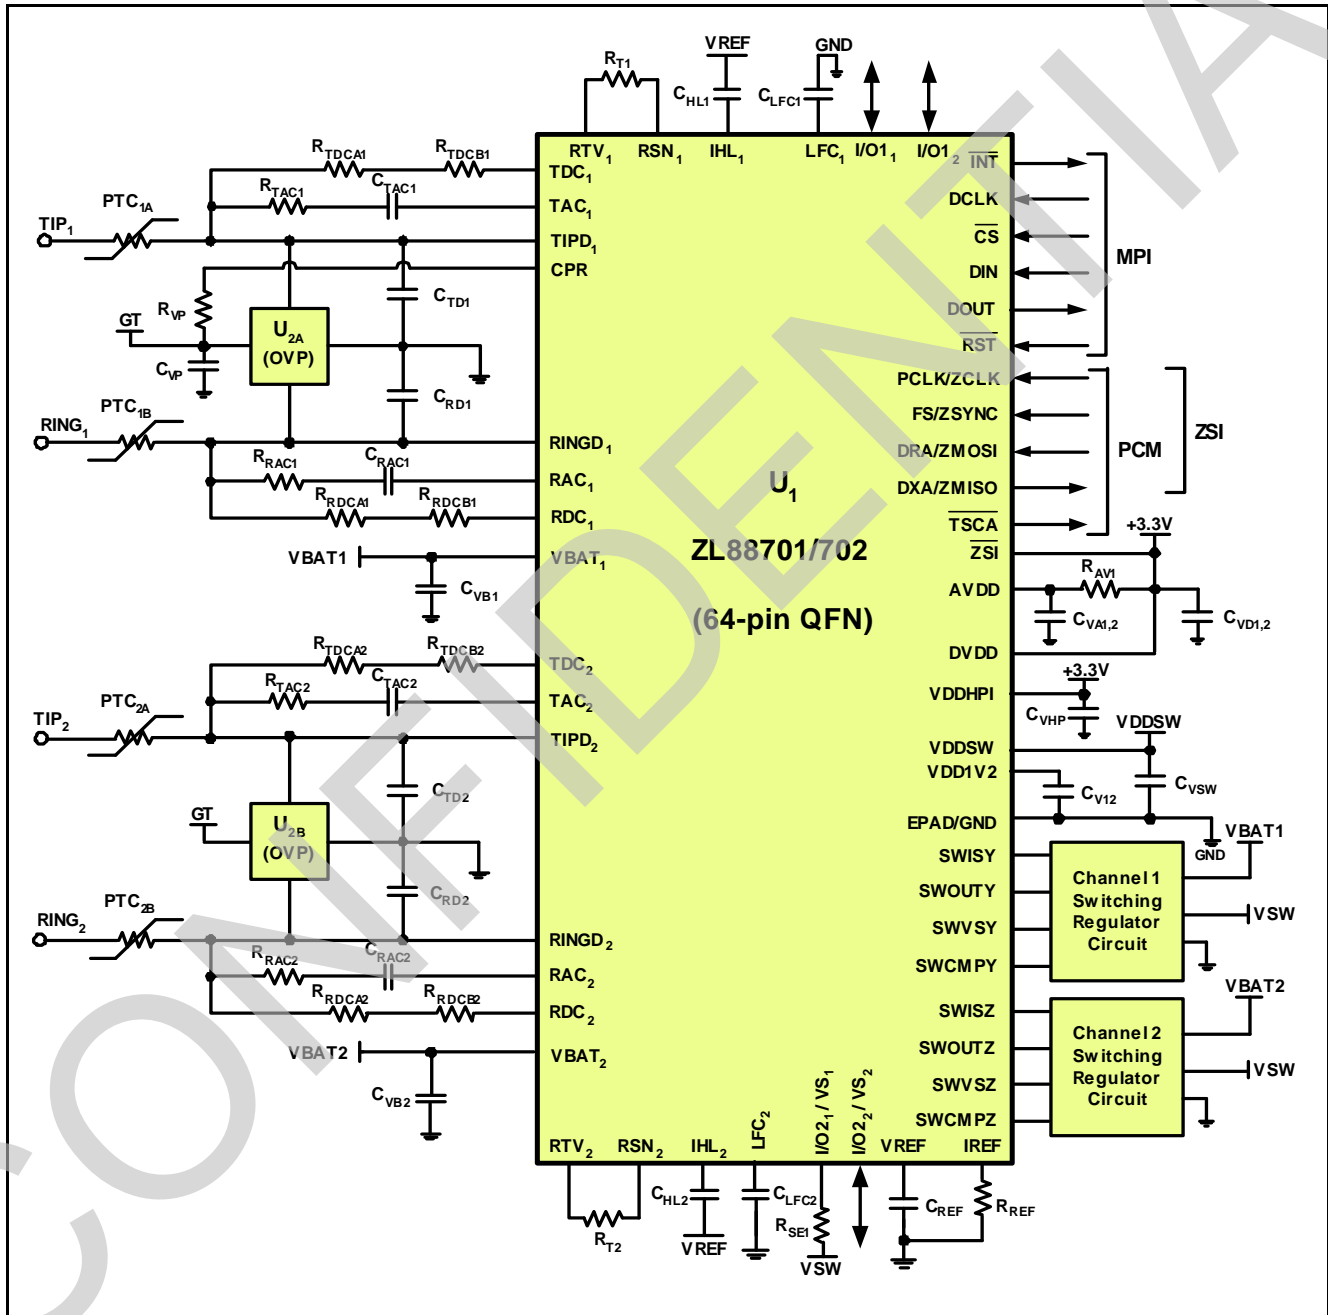
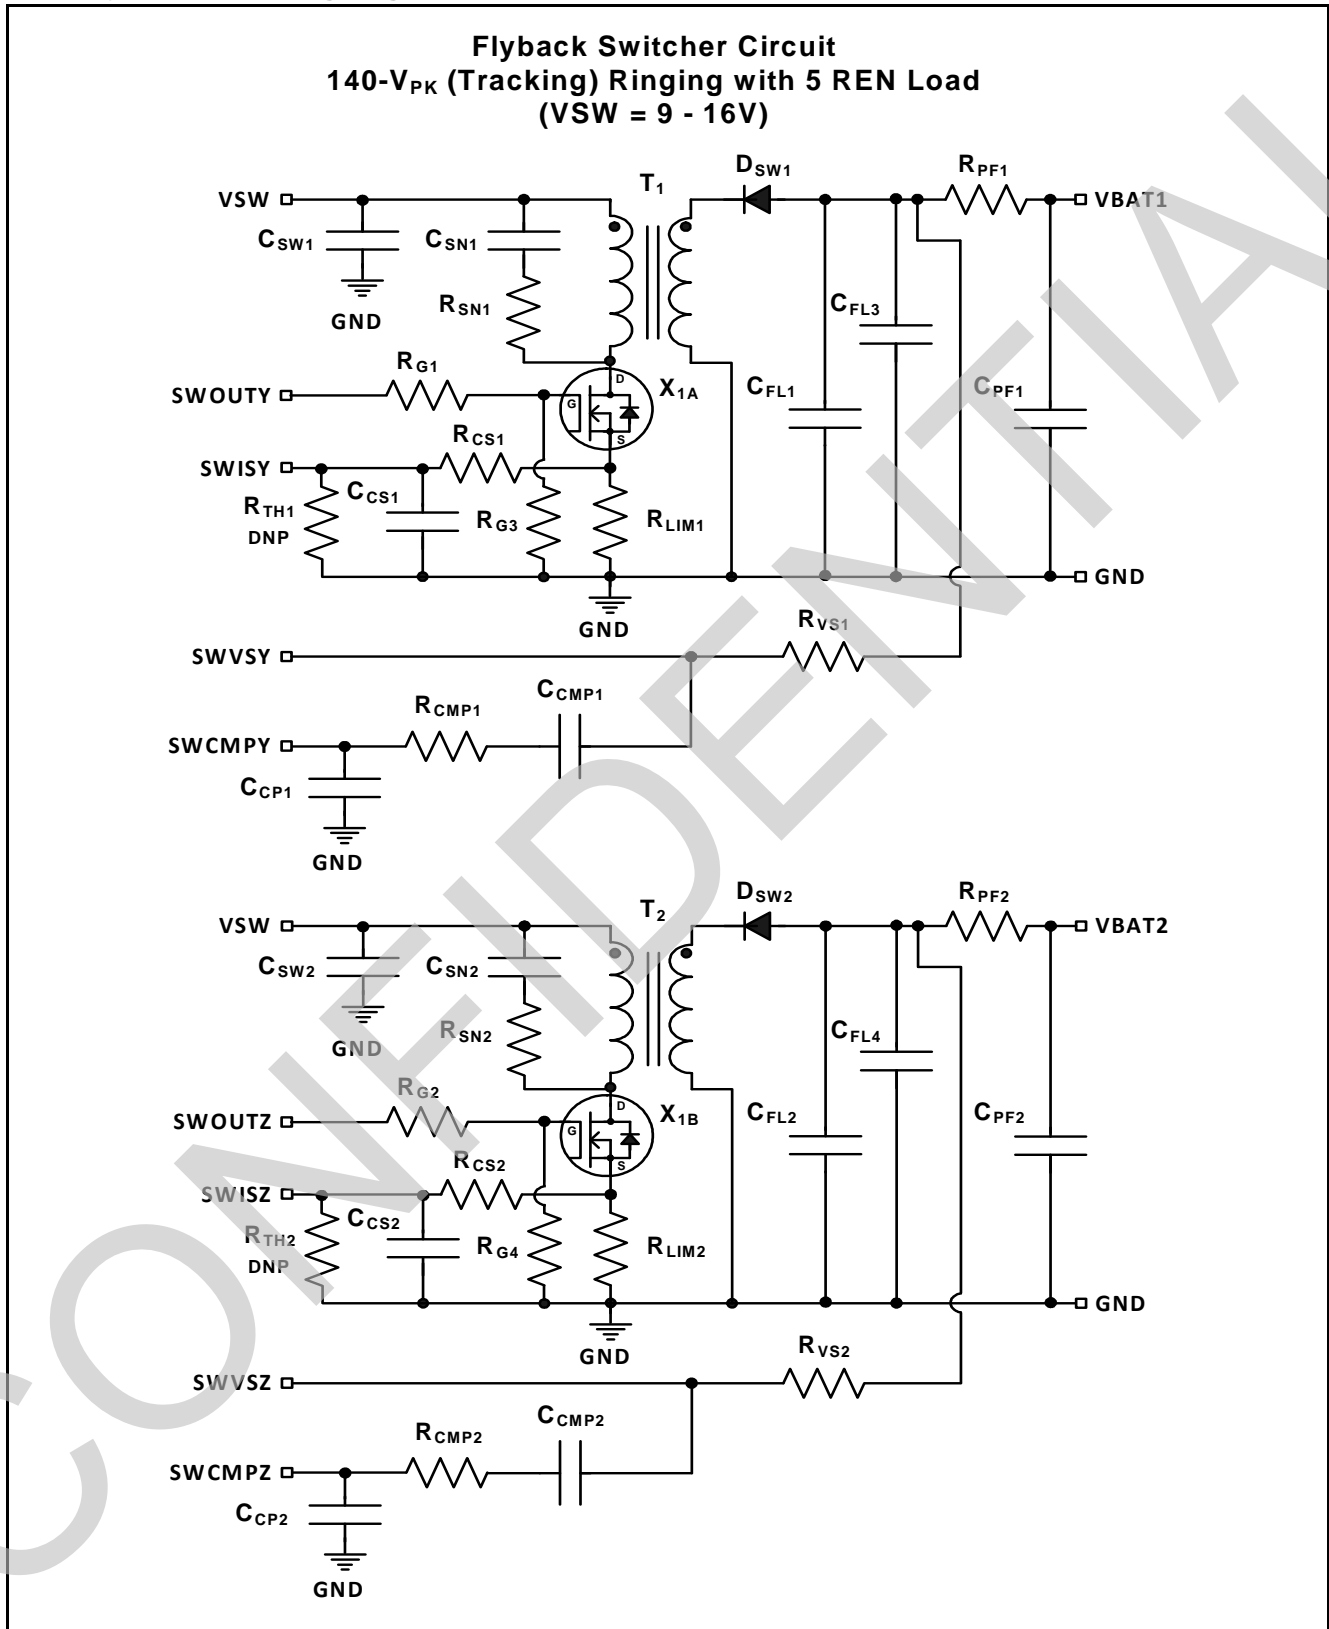
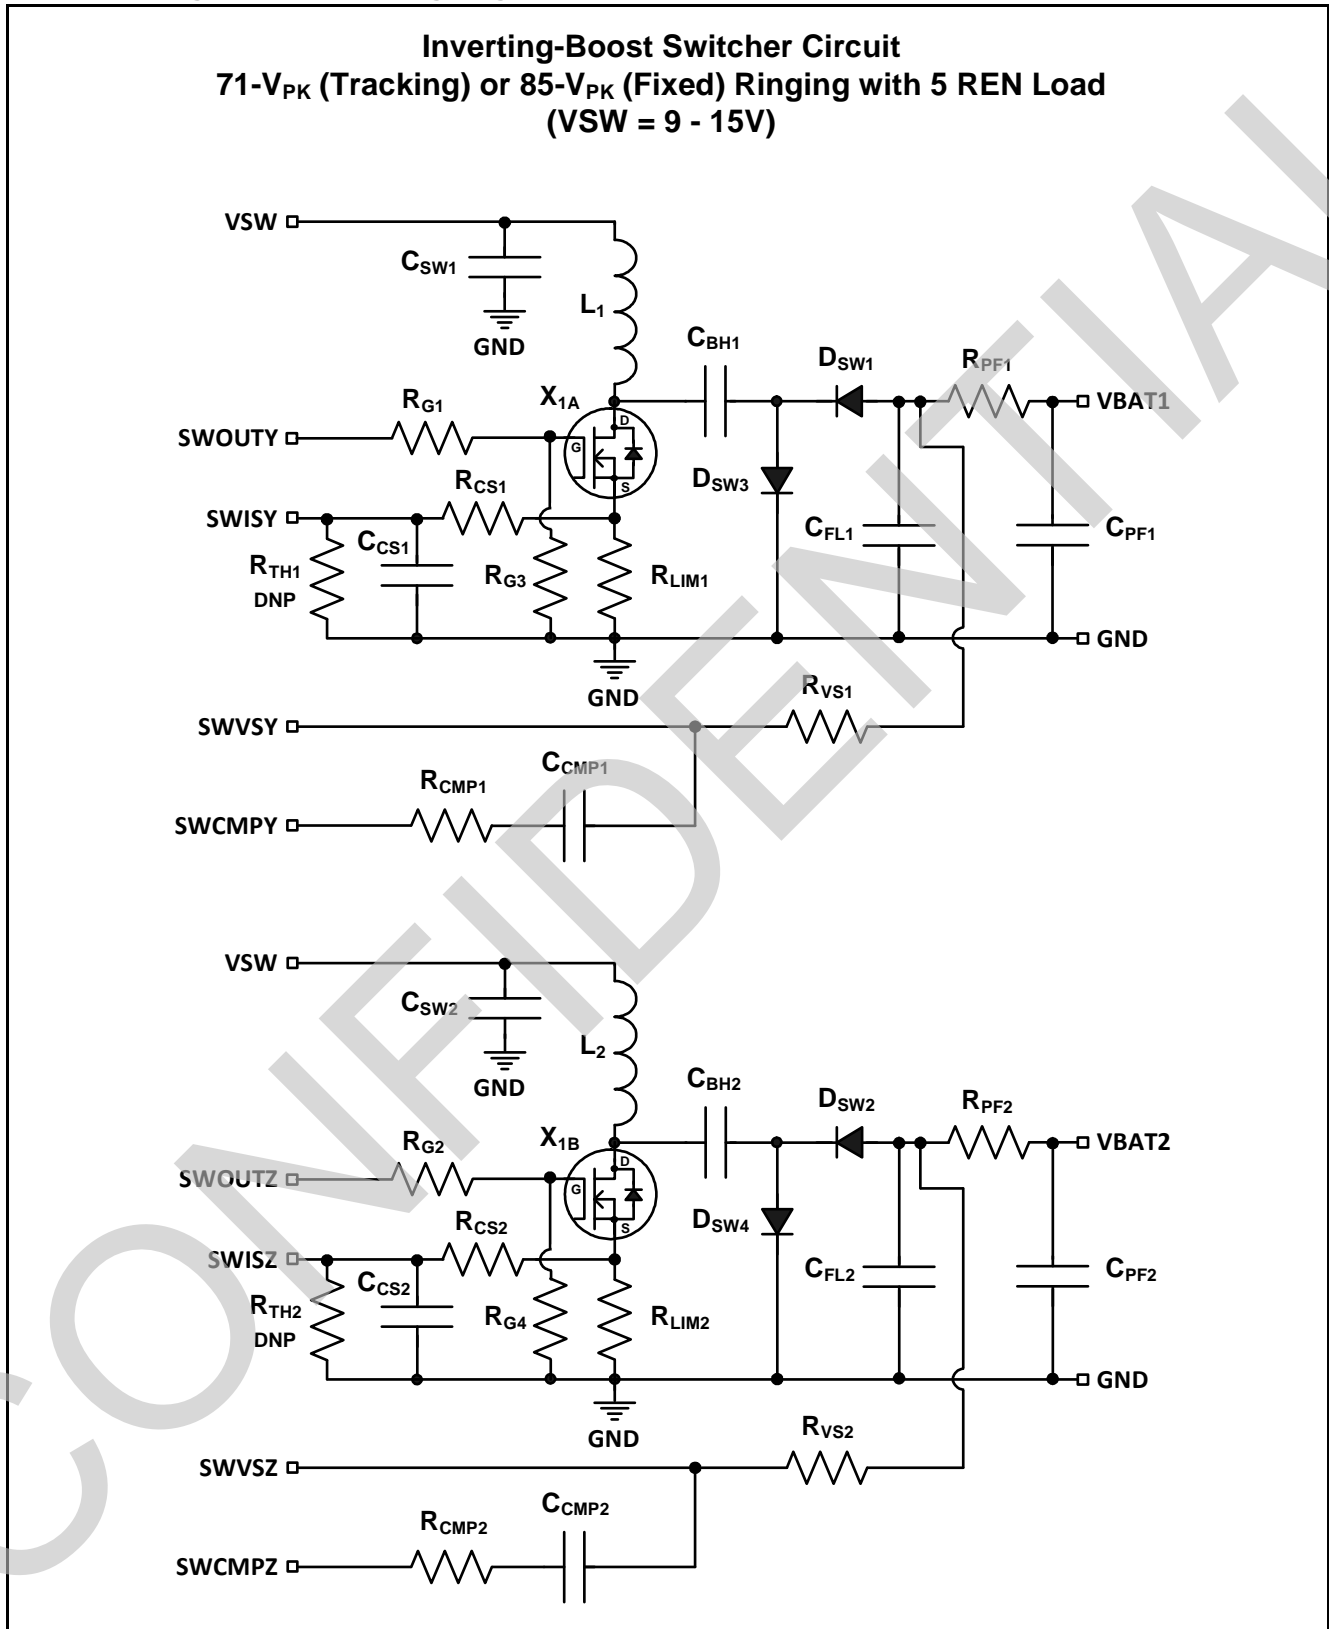

Figure 42 - ZL88701/702 Line Interface Circuit
Figure 43 - Flyback Switching Regulator Circuit (140-V_{PK} Ringing)
Figure 44 - Inverting-Boost Switching Regulator Circuit (85-V_{PK} Ringing)
Figure 42 below shows a typical line interface circuit for the ZL88701/702 configured for operation in the PCM and SPI mode. Decoupling, filtering, and reference generation components are also shown. Two example switching regulator circuits are shown in Figure 43 on page 60 and in Figure 44 on page 62.
- For designs with maximum ringing ≤ 85 V_{PK}, consult Microsemi for the recommended capacitor values or use the inverting boost switching circuit shown in Figure 44 on page 62 for a lower BOM cost.